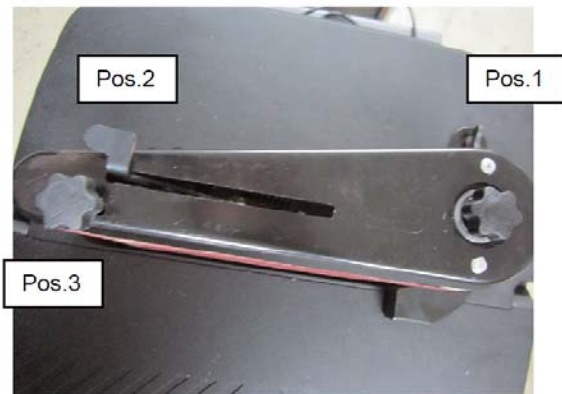

Fig. 8: Adjusting the belt sander
Clamp position 1 (Fig.8).
Step 4: With the lever position 2 (Fig.8) the grinding
Adjust position 3 (Fig.8).